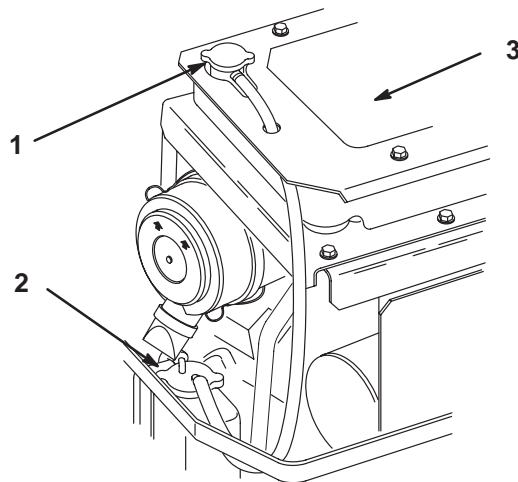

Figure 38
3. With the engine cool, remove the radiator cap (Fig. 38).
6. Add a 50/50 coolant mix to the overflow bottle and fill it to the indicator line on the bottle, if required (Fig. 38).
6. Remove debris from the radiator core and engine (Fig. 38).